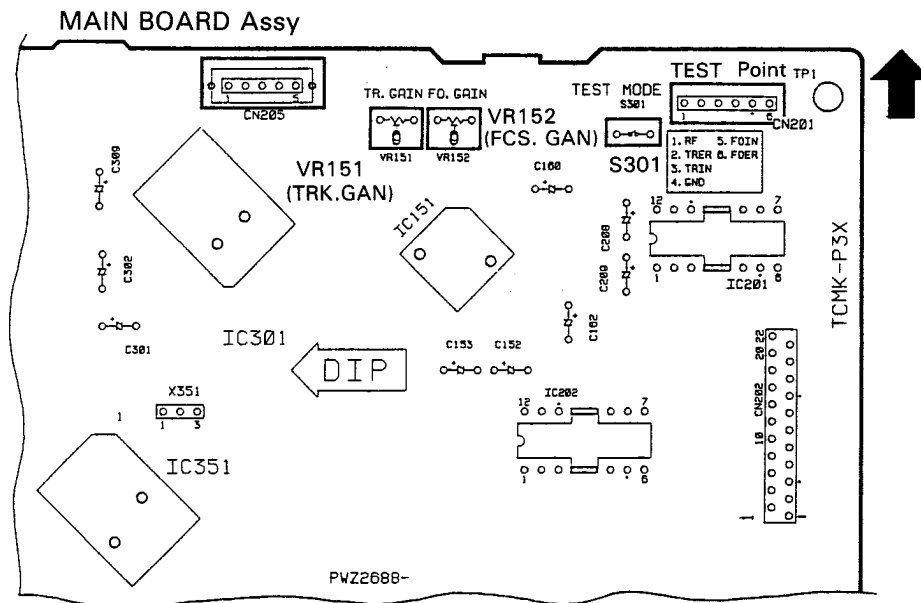

Fig. 1 Adjustment Location
2. Push the test mode switch (S301). (See Fig. 1)